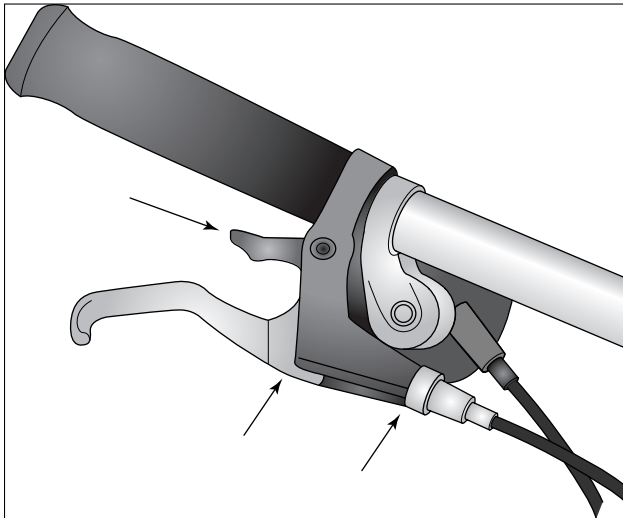

Figure 16-6:
- ✔ **Brake levers:** Apply oil to the brake-lever pivots (see Figure 16-6). Pull back on the brake lever and spray the exposed cable. Be sure to cover the cable adjusters with lube to protect them from rust.